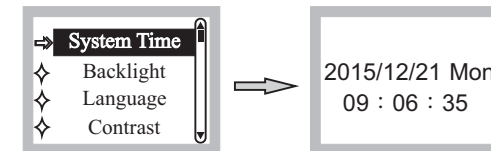

Fig. 19
- (3) Changing Date & Time: Press PLAY/PAUSE to enter the System Time setting mode, press PRV/TEN or NEXT/TEN to change. Press PLAY/PAUSE to confirm, Fig. 19.